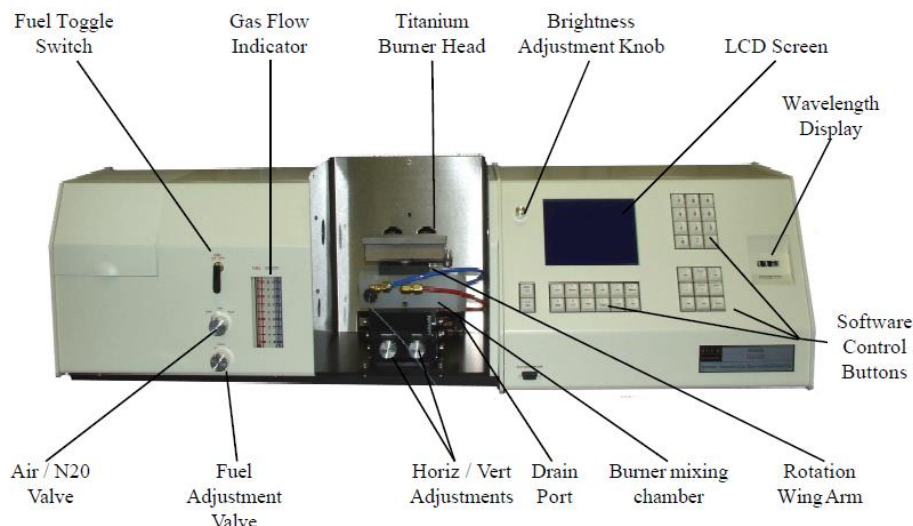

Figure 5. Front View of Instrument. (p. 5 of manual)
- c. Turn air/N₂O value to air (Figure 5). You will observe the air reading on the flow meter. You have no control of the air flow on the instrument.
- d. Turn up the fuel switch, adjust the fuel level by adjusting the “Fuel Adjustment Valve” (Figure 5). Generally, start the flame with slightly more fuel than air.